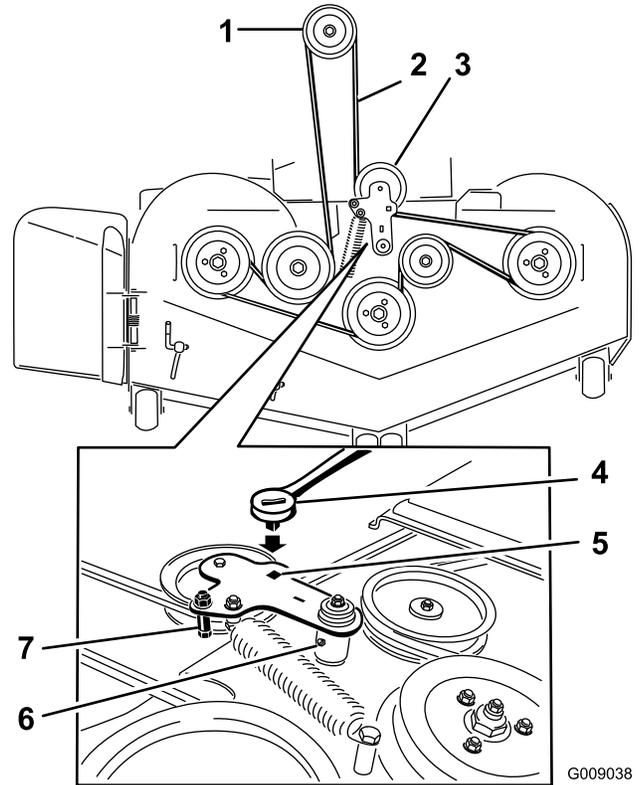

Figure 76
11. Install the new belt around the mower pulleys and the clutch pulley under the engine (Figure 76).
12. Install the belt guide on the idler arm shown in Figure 76.
13. Using the ratchet in the square hole, install the idler spring (Figure 76).
7. Use a ratchet in the square hole in the idler arm to remove tension on the idler spring (Figure 76).
9. Remove the belt guide on the spring loaded idler arm shown in Figure 76.